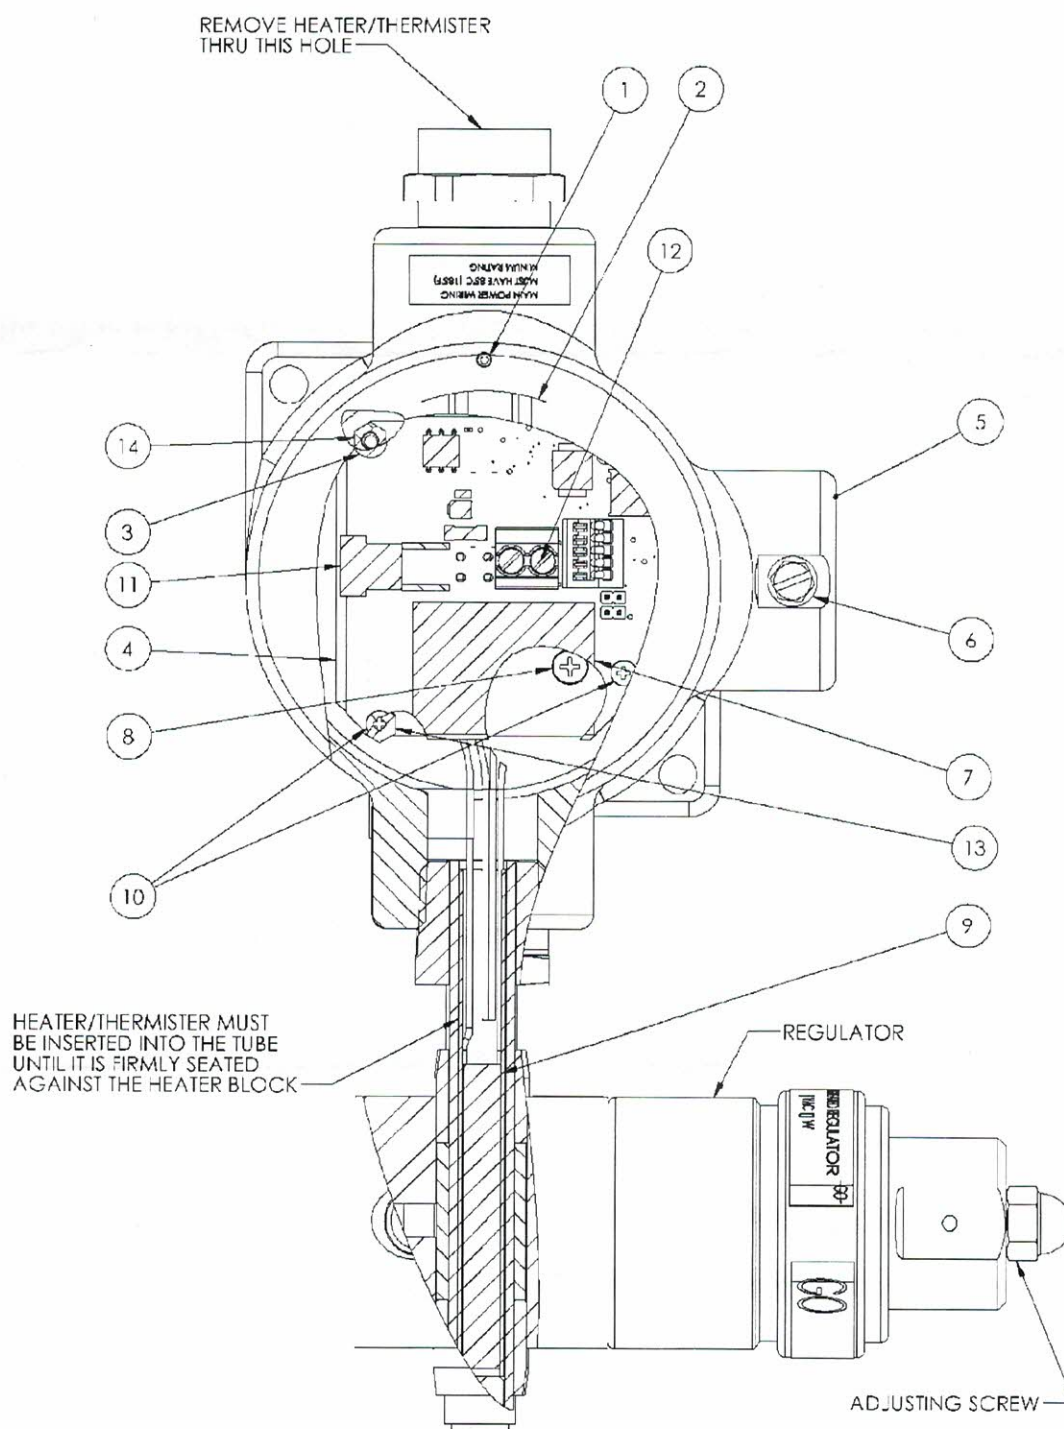

Figure 2: Partial Section View of Assembly
- 2.1 Please refer to Figure 2 during assembly and disassembly of the product.